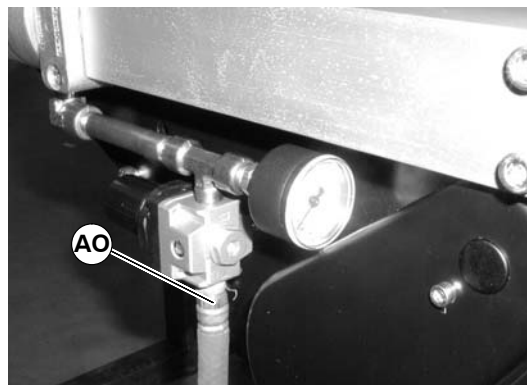

Figure 32
5. Reattach air supply (AO of Figure 32) to center drive. Refer to “Conveyor Belt Tensioning” section on page 13 for more information.
7. Reattach air supply (AO of Figure 32) to center drive. Refer to “Conveyor Belt Tensioning” section on page 13 for more information.